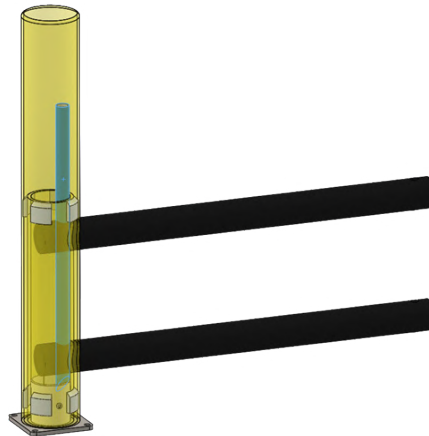

Figure 3. Section fixing in the post.
3. Hammer the fixing pipe to fix the section in the post (Fig. 3).